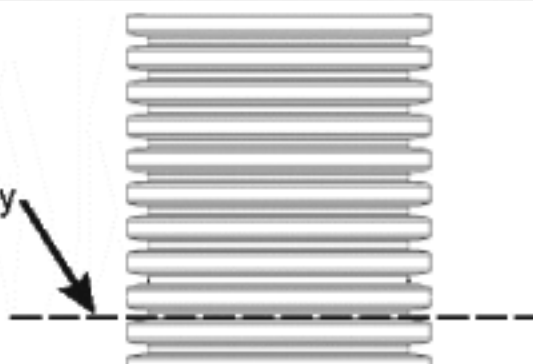

Figure 1.6: Cutting PP's Flex
- a) Make sure that the bottom end is cut squarely and is undamaged. If the bottom end must be cut to ensure this, cut it in a groove using a sharp utility knife as shown in Figure 1.6.